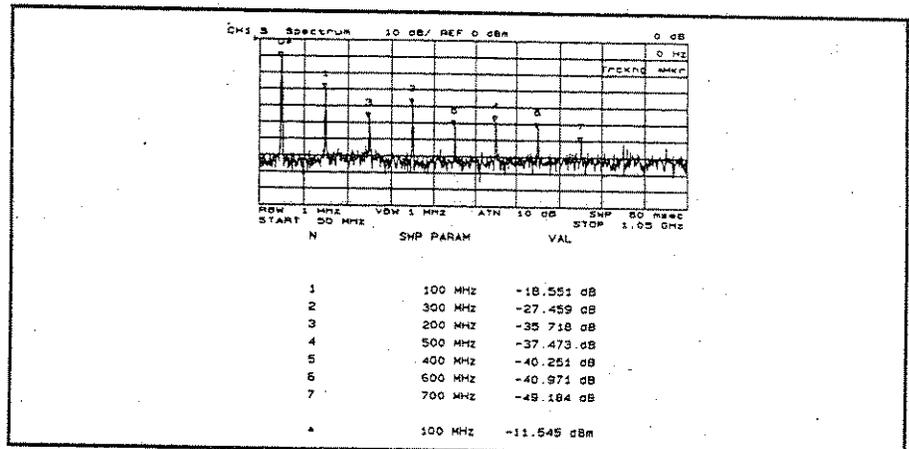

Figure 3-3.
4. Press **Utility** **MKR LIST on OFF to ON off** to turn marker list on. The Δmarker and all sub-marker values are displayed as shown in Figure 3-3.